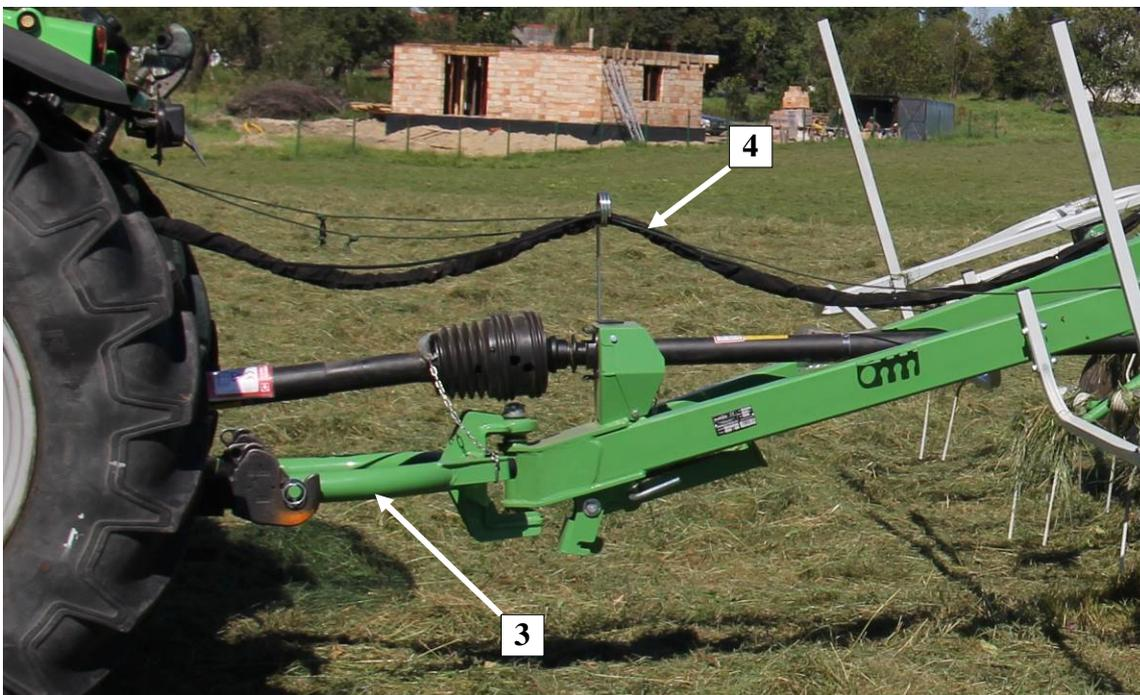

Fig. 11. Tedder mounted on tractor (for: P6-771C)
- ❑ The tedder should be mounted on the tractor using hitch (3) (Fig. 11).
- ❑ Hydraulic hoses (4) for folding of side arms and moving of rear drive wheels should be connected to one tractor's double-section hydraulic connector.